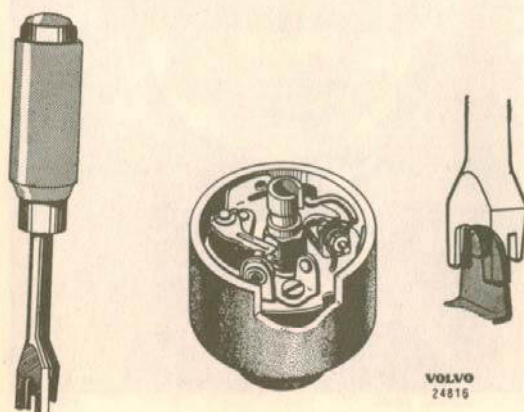

Fig. 10-59. Adjusting contact gap
5. If the contact breakers have been replaced, ensure that the new ones come at the correct height and that they are level with each other. Levelling adjustment is done with a contracting tool (for example, Bosch EFAW 57 or similar). Only the fixed contact may be bent as shown in Fig. 10-59. Adjust the gap and check contact pressure.